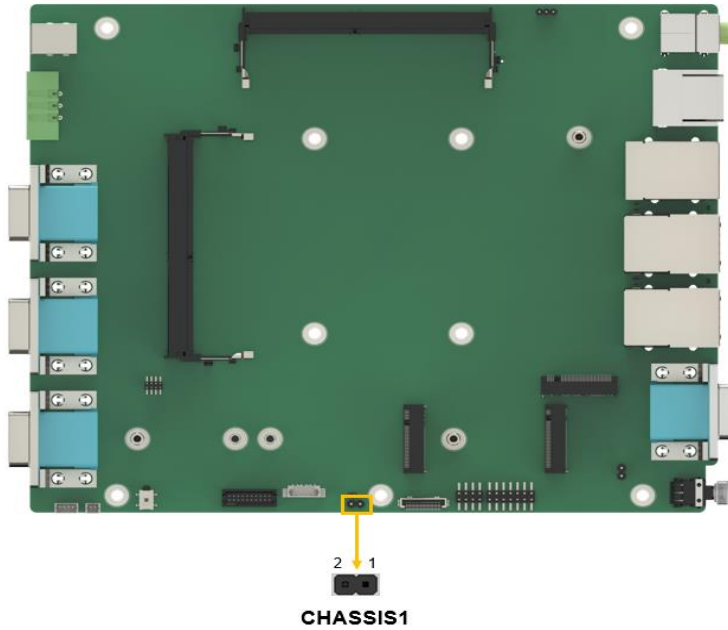

Figure 4-18: Case Open Circuit Setting Location
- CN Location:** See **Figure 4-18**